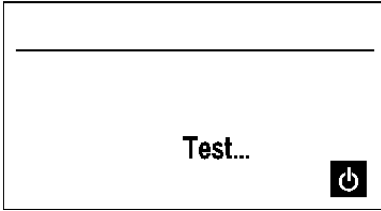

Figure 5.2.4 Test procedure running
► Briefly, press the "Start/On" key (22). The test is started. During the active test the message 'Test...' (11) is displayed. Please refer to Figure 5.2.4.